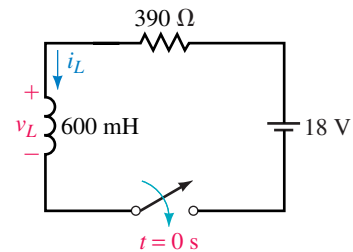

FIGURE 14–40
8. For the circuit of Figure 14–39, determine inductor voltage and current at $t = 50$ ms using the universal time constant curve of Figure 14–10.